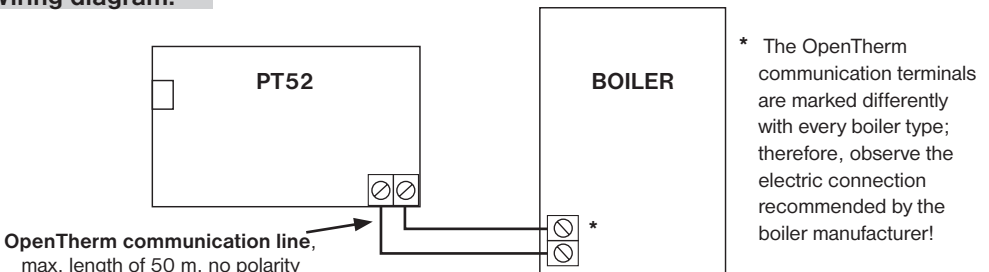

Fig.1
- 1) Remove the control part from the bottom cover of the device (Fig. 1, page 3).